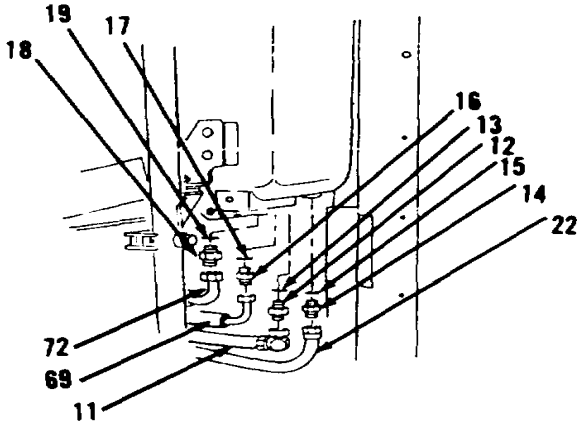

Figure 10-167.
- 2. Remove hose (1) and two clamps (2) from under right, rear of cab.
- 3. Remove four bolts (3), flange (4), hose (5) and seal (6) from bottom, right side of hydraulic tank. Discard seal (6).
- 4. Remove four bolts (7), flange (8), stem (9) and seal (10) from hydraulic pump under center of cab. Discard seal (10).
- 5. Disconnect hose assemblies (11, 22, 69 and 72, Figure 10-167) from bottom of hydraulic tank.